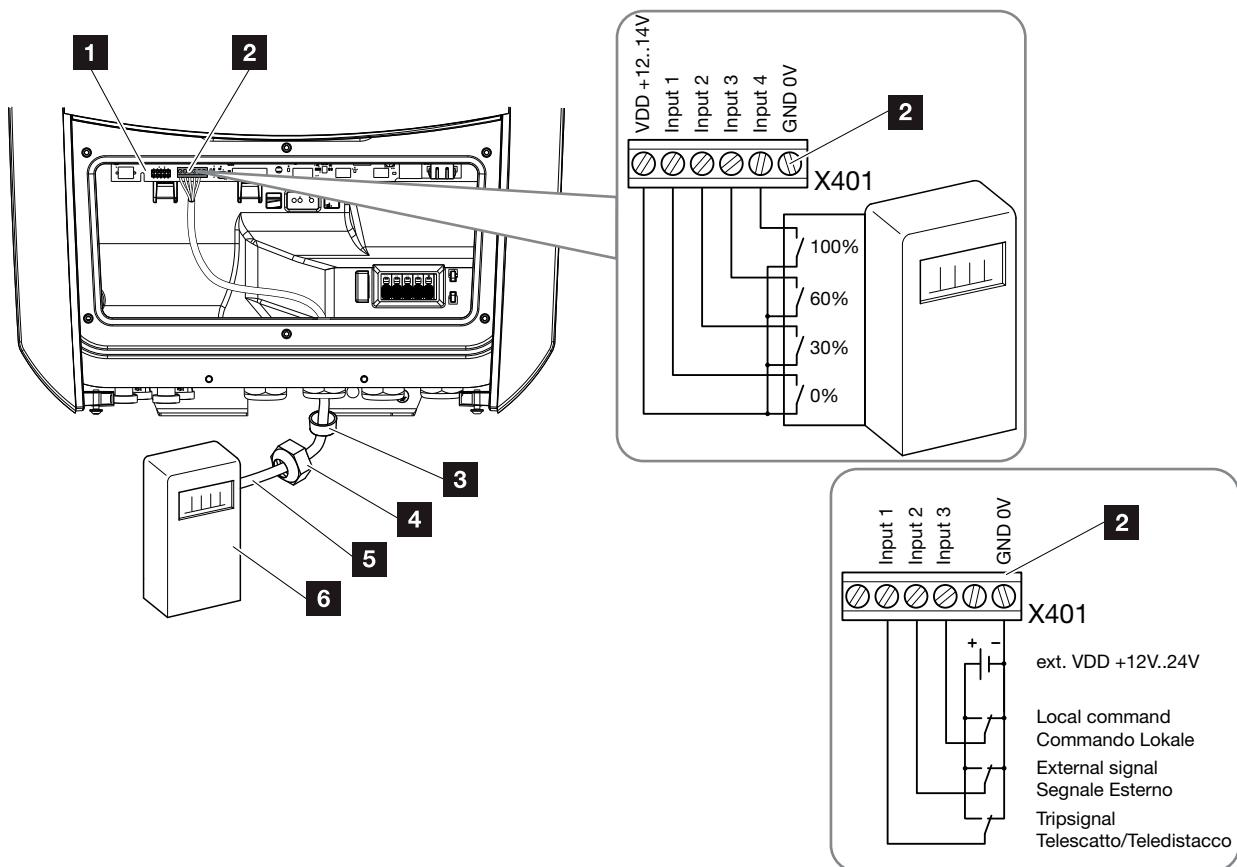

Fig. 29: Connection of ripple control receiver !
4. Connect communication cable in inverter to terminal for ripple control receiver ↗ Fig. 29, It. 2